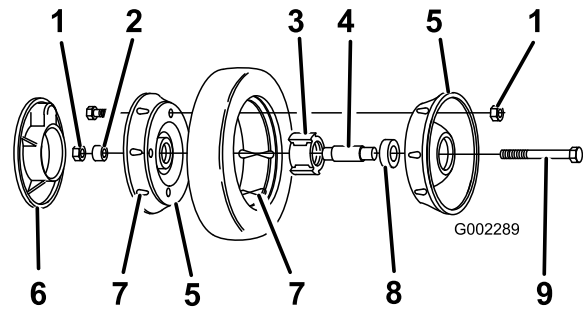

Figure 34
3. Remove the bolt, the wheel spacer, and the locknut mounting the wheel to the pivot arm (Figure 34).
4. Separate the wheel halves from the tire by removing 4 bolts and 4 locknuts (Figure 34).
Note: If you remove the bearings from the bearing/hub assembly, remove them by pressing on the bearing spacer (Figure 34).
1. Position the tire onto one wheel half, aligning the lugs on each (Figure 34).
2. Place the bearing/hub assembly into the center hole of the wheel half. Ensure that the legs of the hub are positioned over the flange of the hole (Figure 34).
3. Place the other wheel half onto the bearing/hub assembly, aligning the wheel and the tire lugs and the mounting holes (Figure 34).
4. Using 2 fully threaded screws or bolts (1/4-20 x 1.50 inch) and non-locking nuts, loosely secure the wheel halves together. Mount the screws or bolts in the opposing holes (Figure 34).
5. Check the alignment of all parts and tighten the bolts, alternating from side to side for a uniform fit, until the wheel halves are drawn together (Figure 34).
6. Install the 2 bolts and 2 locknuts previously removed in the remaining holes in the wheel halves and tighten. Remove the 2 long screws or bolts and replace them with 2 bolts and 2 locknuts (Figure 34).
7. Install the wheel to the pivot arm with the bolts, a spacer, and a locknut. Ensure that the spacer is positioned between the wheel hub and the pivot arm (Figure 34).